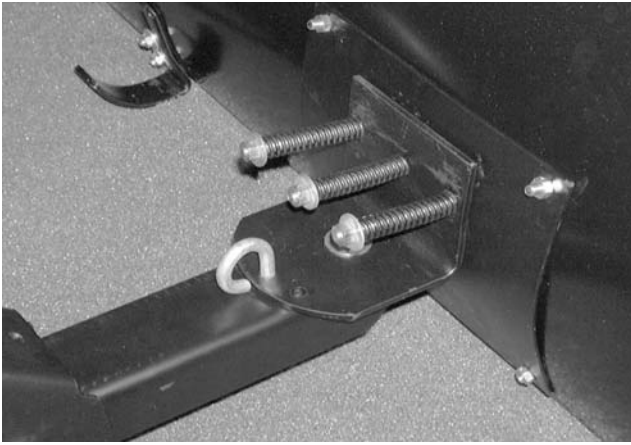

Figure 12-79.
2. The normal adjustment for the spring tension is for the top of the hex nuts to be flush with the end of the hex bolts. To tighten the blade trip action, tighten the hex nuts using a 9/16" socket. See Figure 12-79.